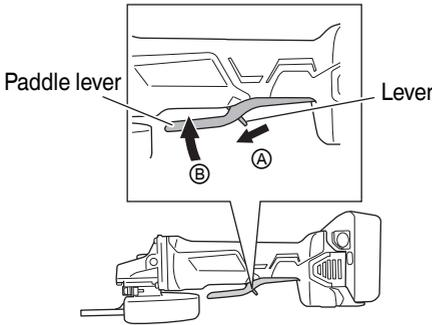

Fig. 7
2. Turn the grinder "on". (Fig. 7)
To switch on, slide the lever in the direction of Ⓐ and press the paddle lever in the direction of Ⓑ as shown in Fig. 7. Release the paddle lever to switch off.